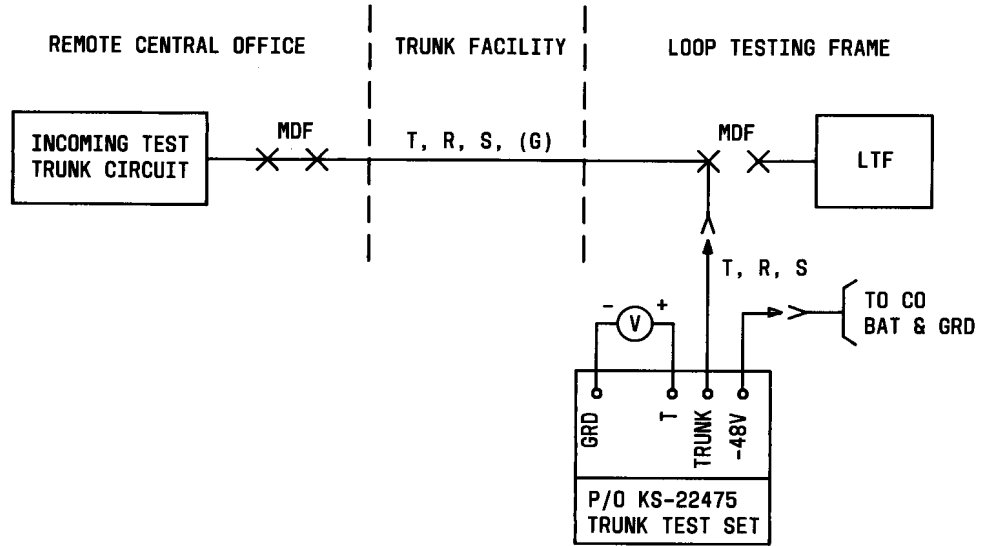

Fig. 5—Office Potential Difference—Connections
A. Office Potential Difference (not required for test trunks with G lead returned and ground at LTF location) (Fig. 5).